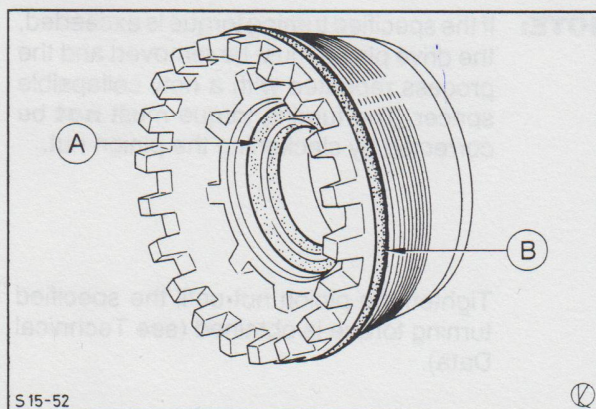

Fig. 66. Differential bearing housing.
38. Smear the threads of both differential bearing housings with specified grease (see Technical Data), insert the differential in the rear axle casing and fit the differential bearing housings with new O-rings on the right and left hand sides, Fig. 66.